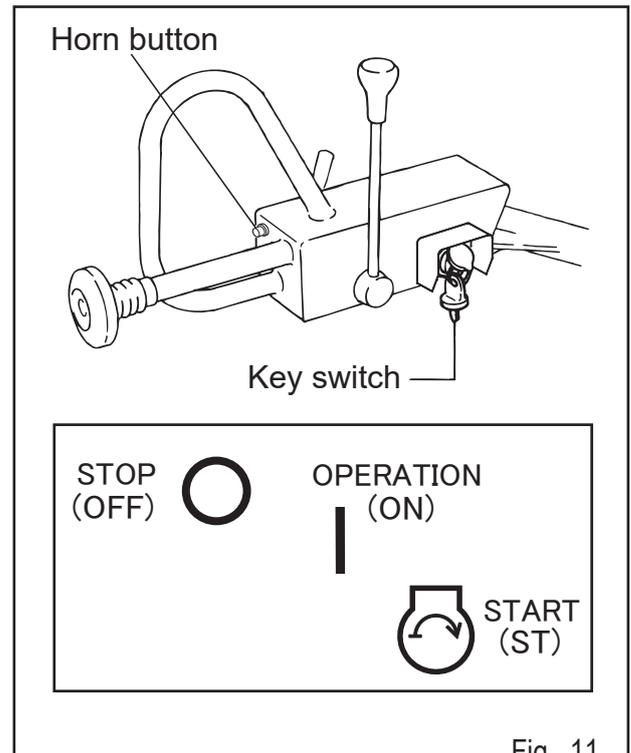

Fig. 11
- a. Insert the key into the key switch and turn the key to "ON" (Operation) position. Make sure that a buzzer goes off when the key is turned to ON. (Fig.11)
- Returning the throttle lever forward causes the engine to stop. In case of starter motor type, return the key switch to STOP position also as soon as engine stops. (Fig.11)